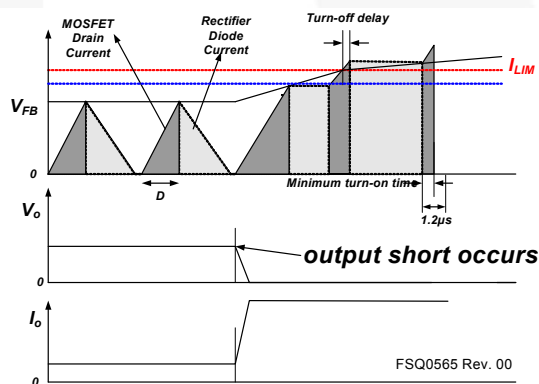

Figure 32. Output Short Waveforms
4.3 Output-Short Protection (OSP): If the output is shorted, steep current with extremely high di/dt can flow through the SenseFET during the LEB time. Such a steep current brings high voltage stress on the drain of SenseFET when turned off. To protect the device from such an abnormal condition, OSP is included in the FSQ-series. It is comprised of detecting V_{FB} and SenseFET turn-on time. When the V_{FB} is higher than 2V and the SenseFET turn-on time is lower than 1.2 μ s, the FPS recognizes this condition as an abnormal error and shuts down PWM switching until V_{CC} reaches V_{start} again. An abnormal condition output short is shown in Figure 32.